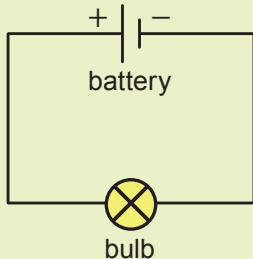

Figure 2.10
1. Draw and label the directions of conventional current and electron flow in the circuit shown in Figure 2.10.